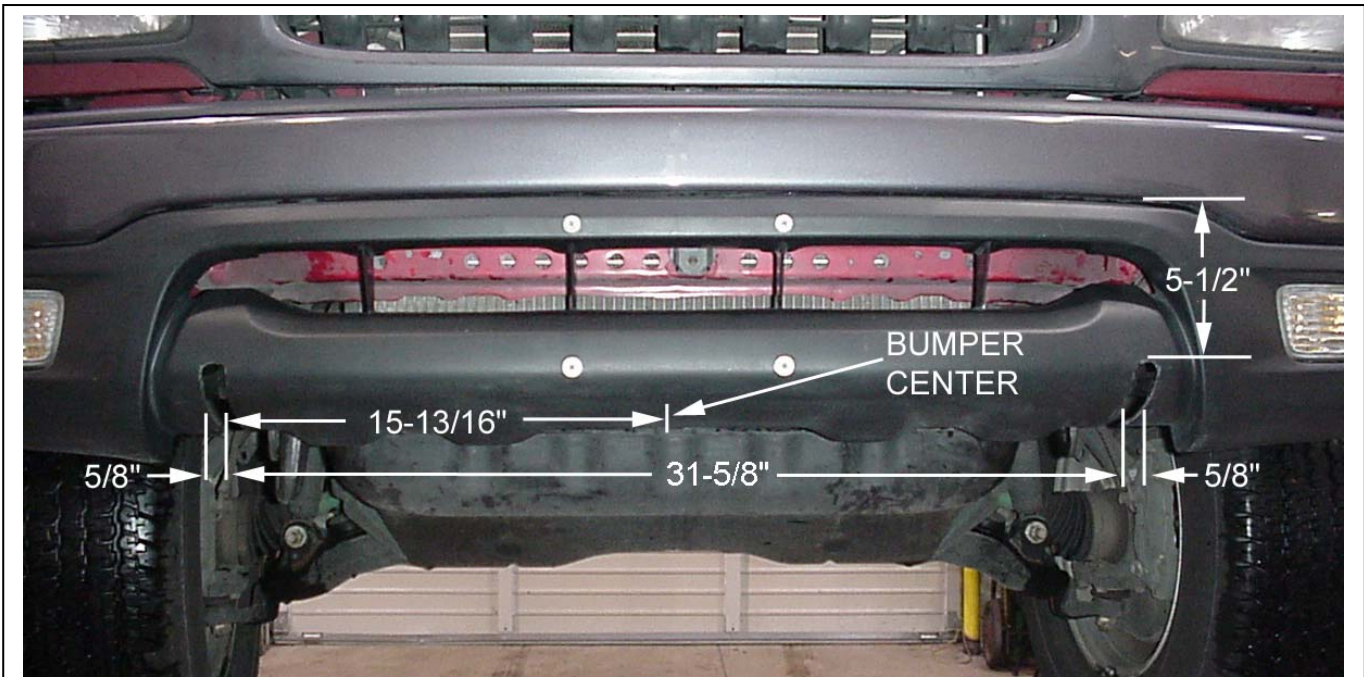

Figure 2. Front Bumper Trim
2. Refer to **Figures 2** and **3**. Measure across the bumper. Mark and cut slots into the plastic at the locations shown. The plastic can easily be drilled, sawed or cut with any sharp cutting tool. The corners at the end of the slots should be rounded.